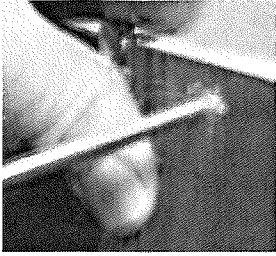

Fig 5a
Step 4. Pre-drill 3/16 inch holes 3/8 inch down from from top of cabinet and also 27-3/4" down from top of cabinet. (See Fig 5a-c). Repeat with other adjacent cabinet.